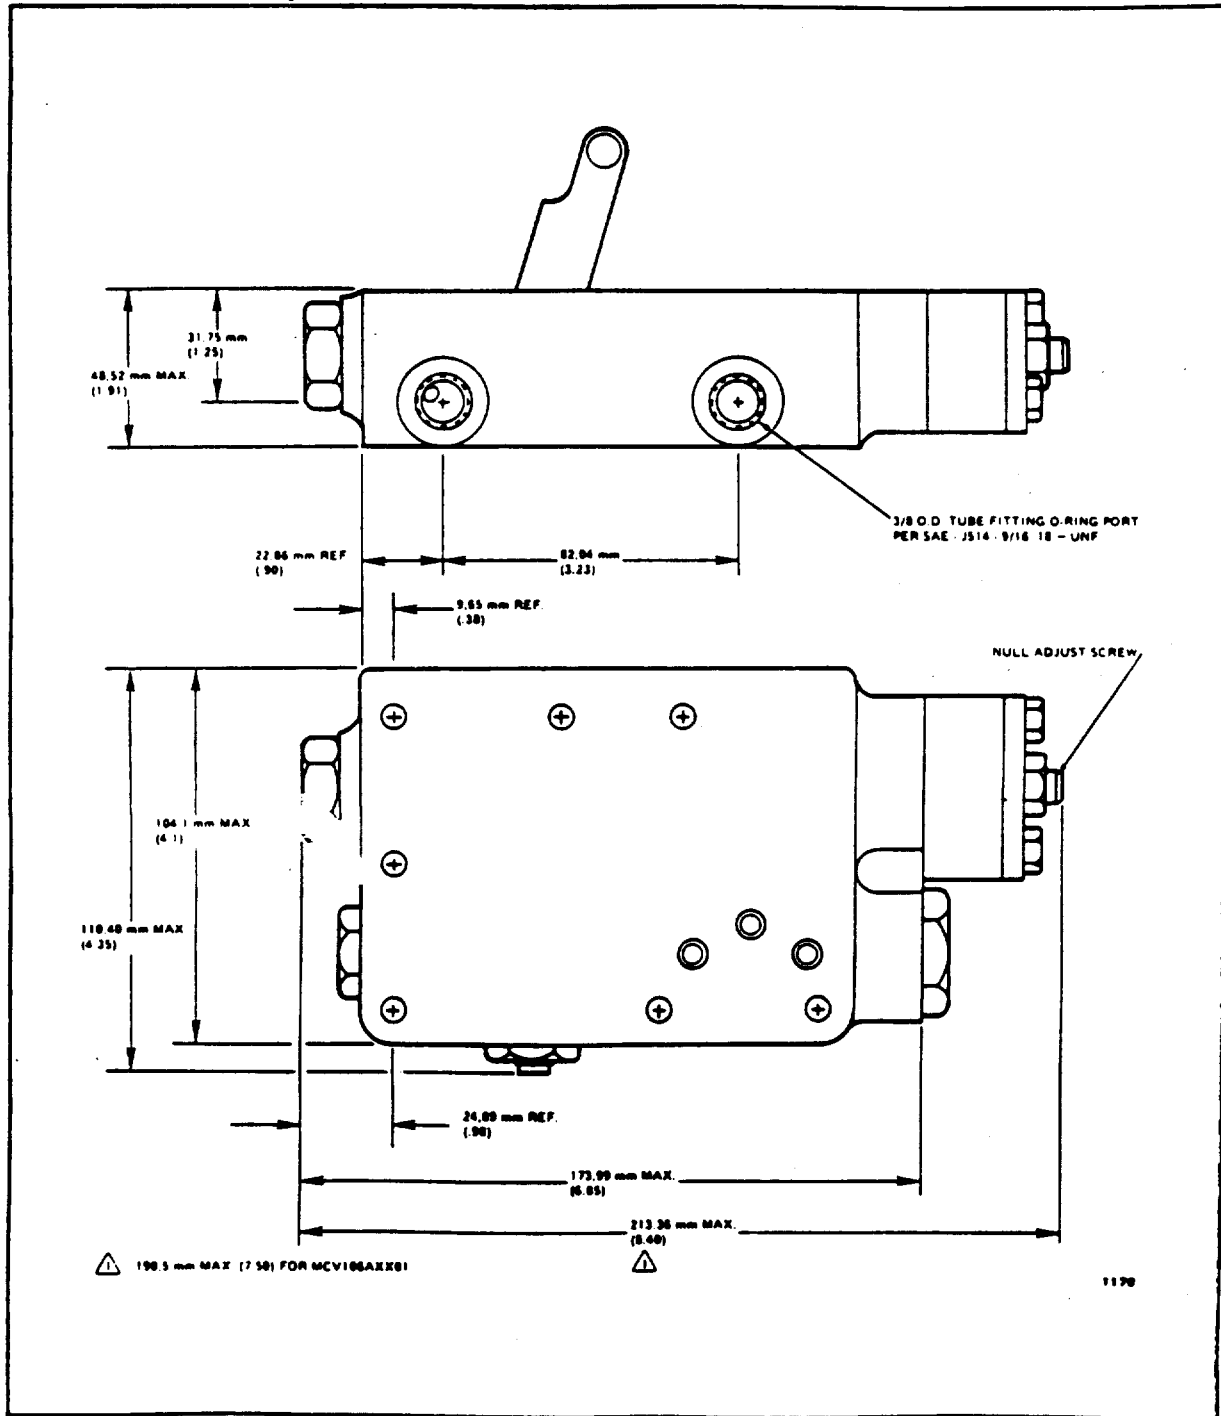

FIGURE 1. Dimensions in millimeters (inches).
See Figure 1.
- 2. Using a 9/16-inch wrench, loosen the hex lock nut on the null adjustment screw. See Figure 1.
The threshold and full stroke modulating pressures come in three ranges, as shown above. The threshold (the amount of differential pressure necessary to move the actuator spool) and full stroke (the amount of differential pressure necessary to yield maximum swashplate displacement) ranges should be chosen so as to be compatible with the hydraulic signal from the command source, which is usually a control handle. The full stroke figures shown are nominal "02" and "03" models use a spacer plate which makes the body longer, as shown in Figure 1.